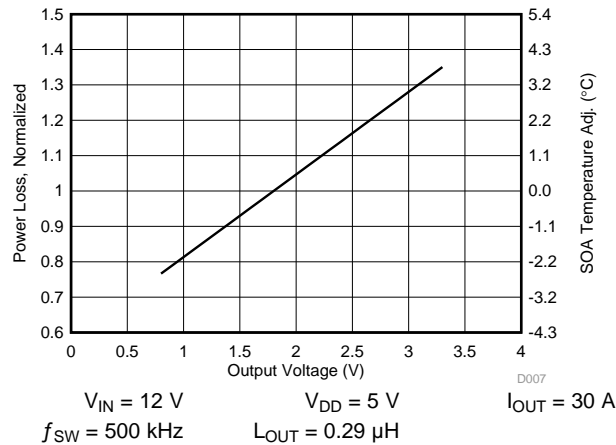

Figure 10. Normalized Power Loss vs Output Voltage
- Normalized power loss for output voltage  $\approx$  1.05 (Figure 10)
- SOA adjustment for output voltage  $\approx$  0.51°C (Figure 10)